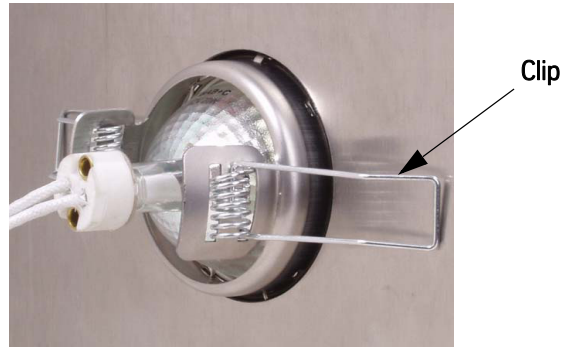

Figure 5 - Back Side of Halogen Lamp Assembly
2. Gently pull the lamp housing away from the cab top, pushing back the clips which hold the housing in place. See Figure 5.